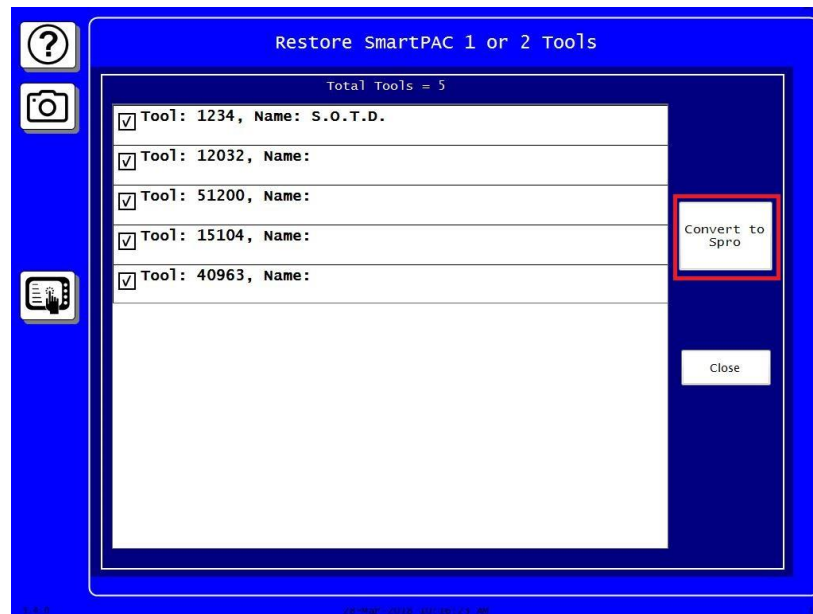

Figure 9 – Convert to Spro button
10. Tools that are checked will be restored to the SmartPAC PRO or you can uncheck any of the tools you do not want restored then press the Convert to Spro button (Figure 9 below)